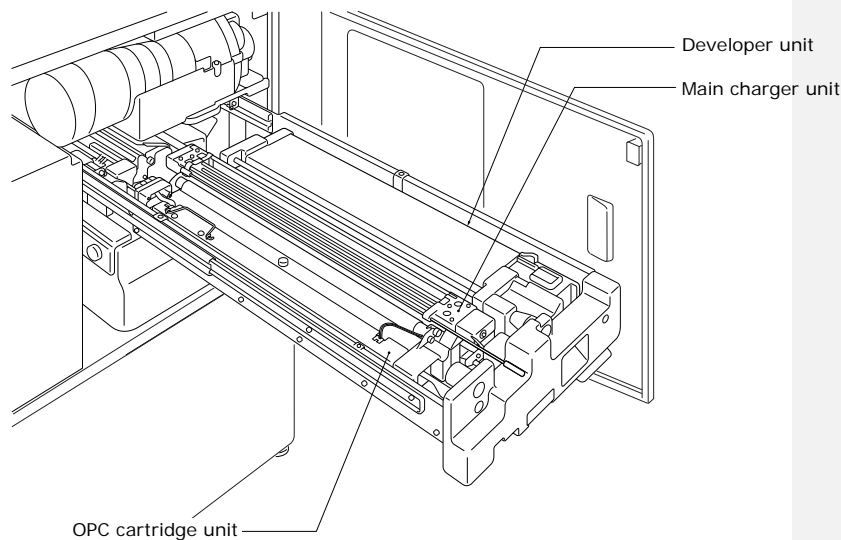

Figure 2-5. Components accessed from the EP holder.
- Slides open, providing easy access to the main charger unit, the developer unit, and the OPC cartridge (see Figure 2-5).